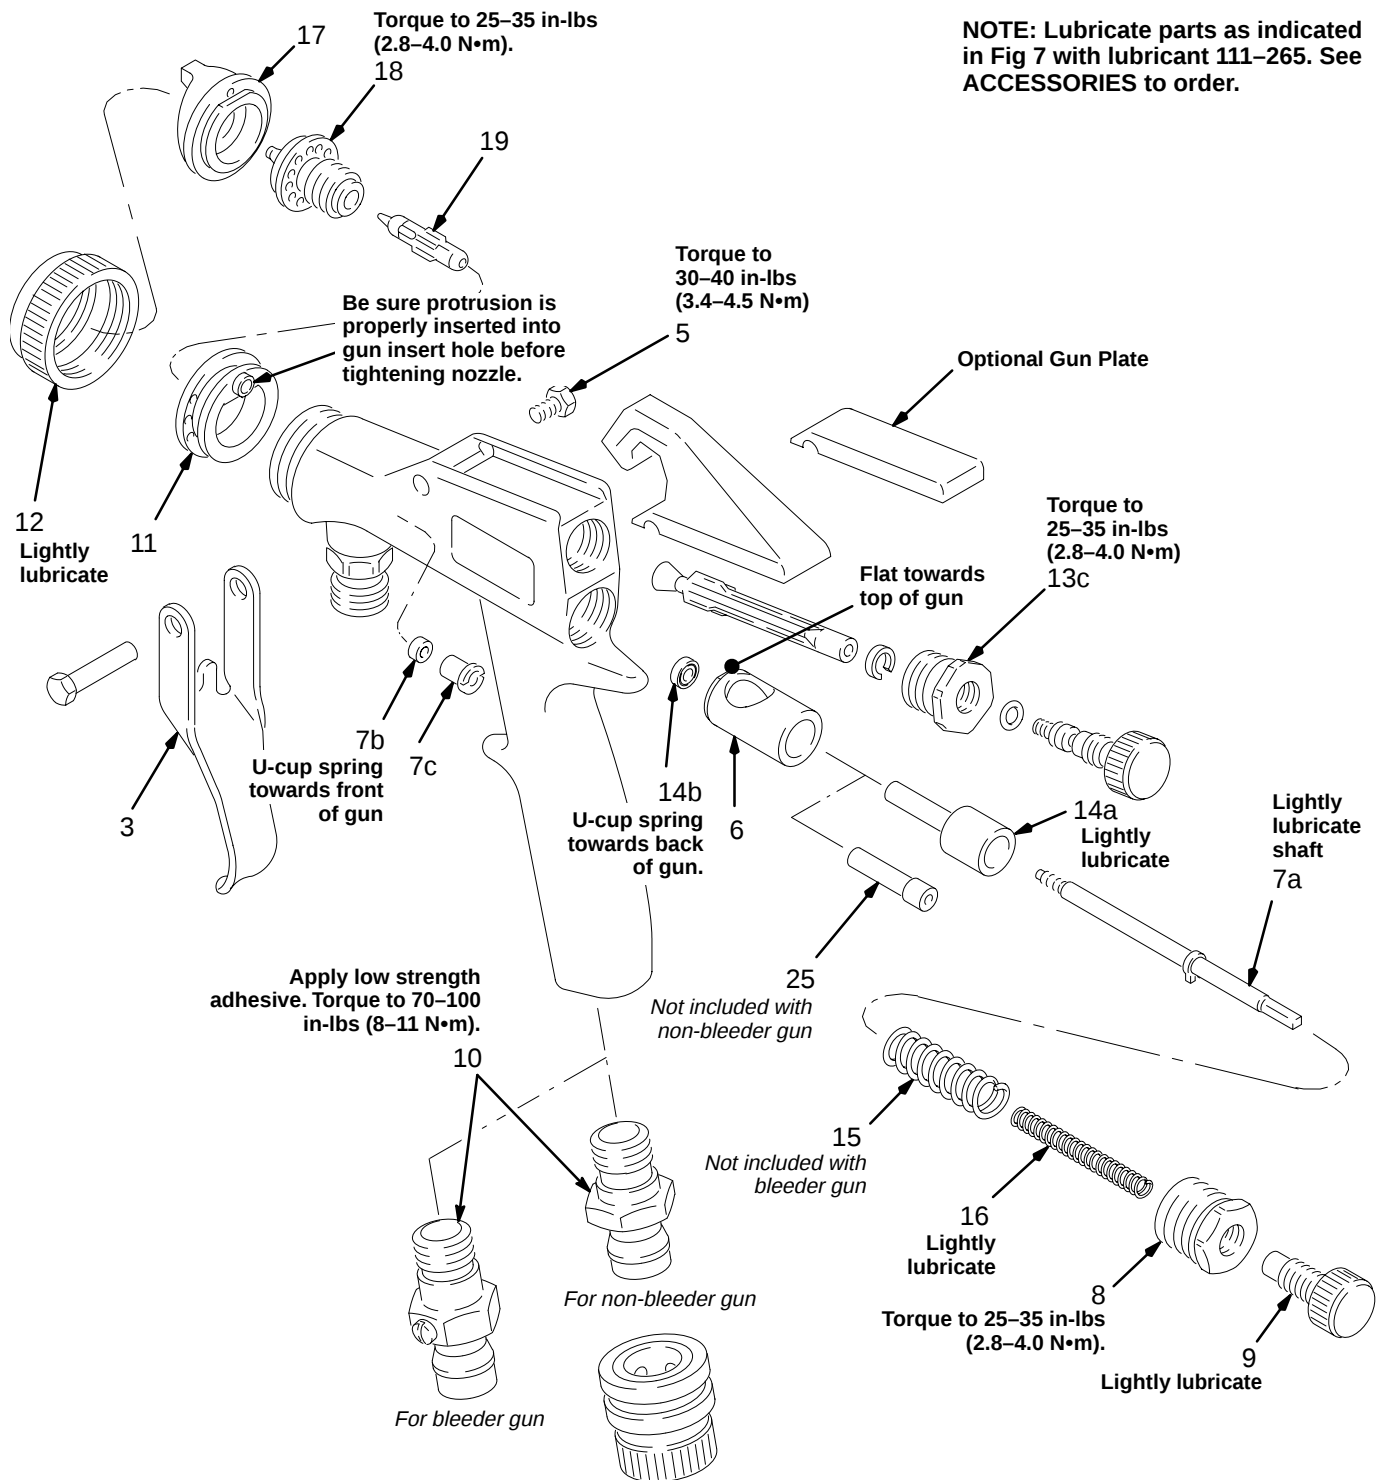

Fig 7
When the air valve is closed, a maximum of 0.5 scfm air flow is allowed to pass around the air valve during normal operation. If an excessive amount of air is passing through the air valve, service the valve as instructed below; refer to Fig 7.
7. Lightly lubricate the fluid shaft (7a) and other parts as indicated in Fig 7 with lubricant 111-265 (see **ACCESSORIES**) and reassemble the parts.
6. Lightly lubricate the parts as indicated in Fig 7 and reassemble the gun.
NOTE: Lubricate parts as indicated in Fig 7 with lubricant 111-265. See ACCESSORIES to order.
If leakage occurs at the fluid seal area, the u-cup seal (7b) or fluid shaft (7a) may be damaged or worn. Service as instructed below; refer to Fig 7.
6. To ease installation of the u-cup seal (7b), remove the trigger (3) and air valve (14) or air valve filler (25).
7. Clean the parts. Check the fluid shaft (7a) for damage or excessive wear. Replace if necessary. Lubricate the parts indicated in Fig 7 with lubricant 111-265.